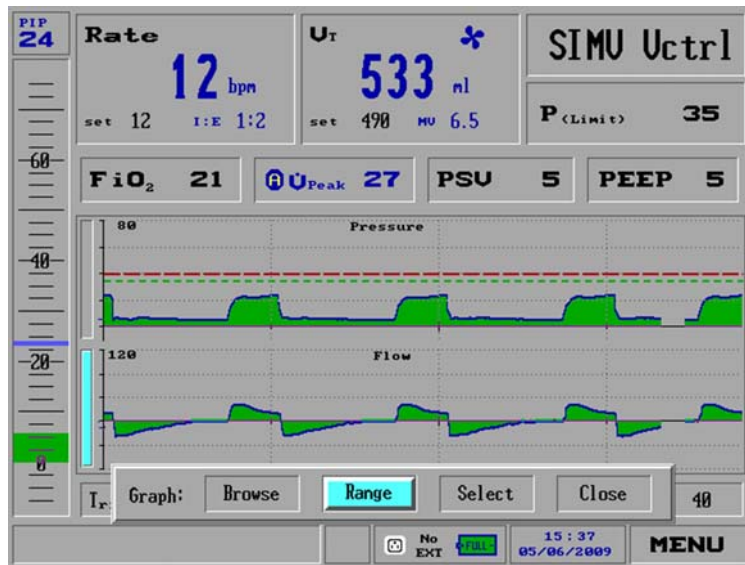

Figure 99: The Graphic Choice Bar With Range Selected
2. Press the Control Knob to display the **Graph Choice** bar (Figure 99).